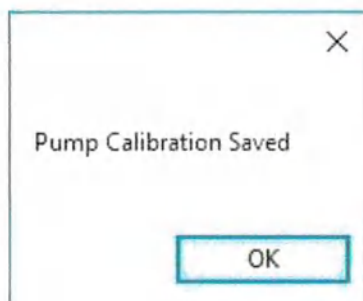

Figure 56
9.5.6.12 Enter the measured volume (μL) and press the "OK" button. The pump calibration factor will be calculated automatically and a message will appear below if the result is within the acceptable range [Figure 56].